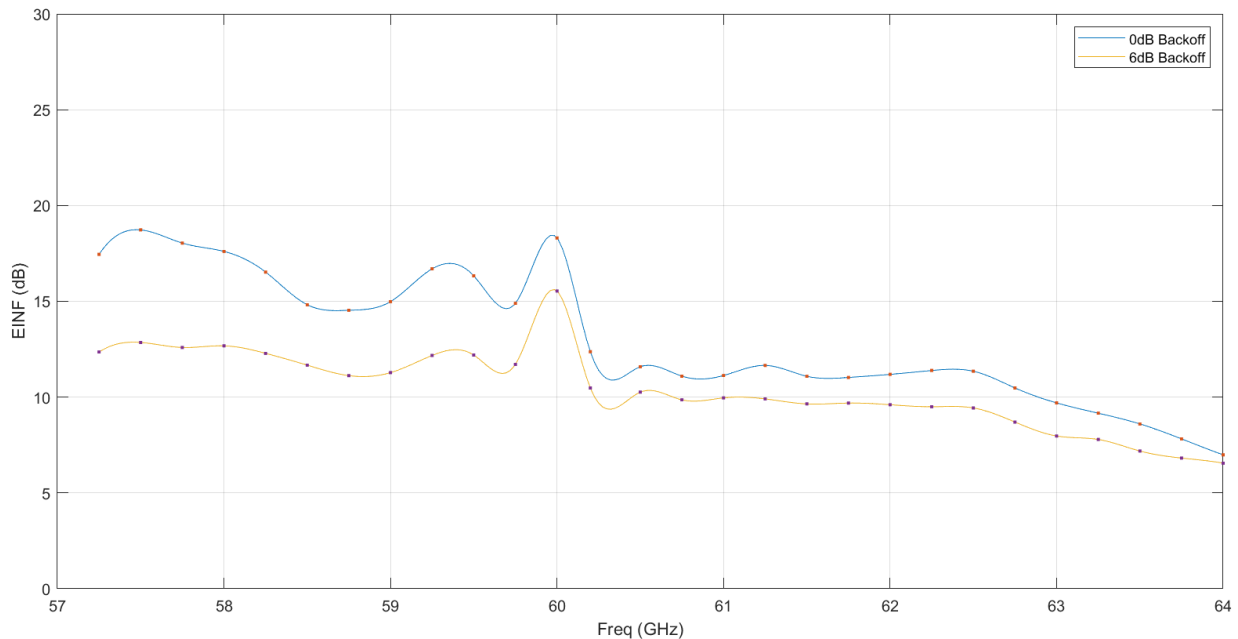

Figure 2-2. Average EINF With Single TX on Across Frequencies
These effects across transmit and receive pairs can be combined to show a total effect of all transmit and receive antennas across RF frequency. Figure 2-2 shows the noise figure averaged across different TX-RX combinations.
- Choosing start and stop frequencies (bandwidth) of the FMCW chirp can help reduce coupling and lower the noise figure. As Figure 2-2 shows, the 61 to 64GHz band has lower coupling than the 57 to 61GHz band. Designing a chirp to utilize the 61 to 64GHz portion of the frequency band can help lower the noise figure. Local regulations and other considerations can drive frequency choice of the end application, but the previous graphs can be used for expected noise figure in different frequency bands.